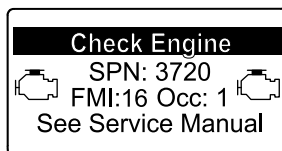

Figure 45
- Engine warning SPN 3720, FMI 16 (Figure 45)